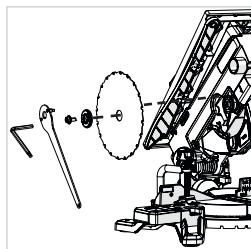

Fig. 7
- Remove the blade by withdrawing it outwards to clear the end of the arbor and then downwards and forwards away from the machine. **(Fig. 7)**